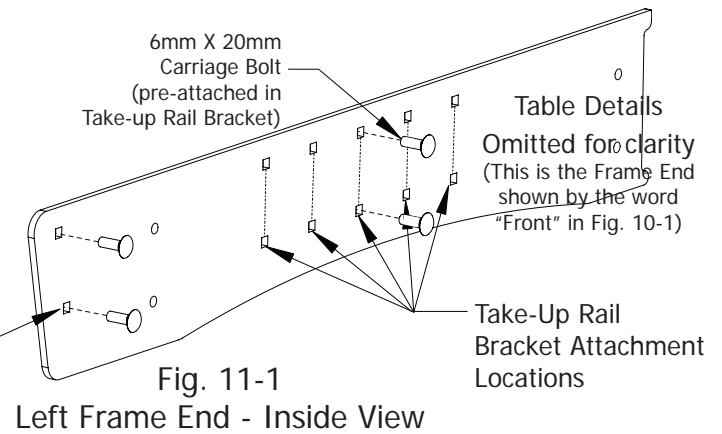

Fig. 11-1
11-2: Insert a 6mm X 20mm Carriage Bolt through each of the two (2) square holes located at the front of each of the Frame Ends, as shown in Fig. 11-1, and Fig. 11-2. The Bolts are inserted from the inside of the Table assembly, facing out, this is shown more clearly in Fig. 11-2.
11-6: Insert two (2) 6mm X 20mm Carriage Bolts through one of the five (5) available attachment positions indicated in Fig. 11-1. (**The square holes are arranged in vertical pairs**, which are provided to allow many different sizes of sewing machines to be used on the Quilting Frame. Try the middle position first, and adjust later if more, or less quilting area is desired.)